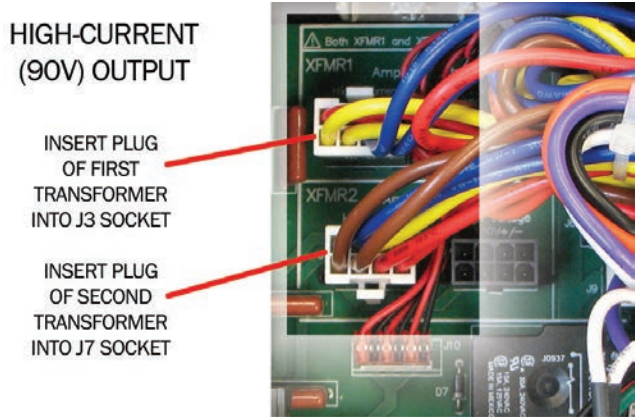

Figure 5.10 – J3 and J7 Plug Locations for High-Current Output
2. For High Current (90V) Output (see **Figure 5.10**).